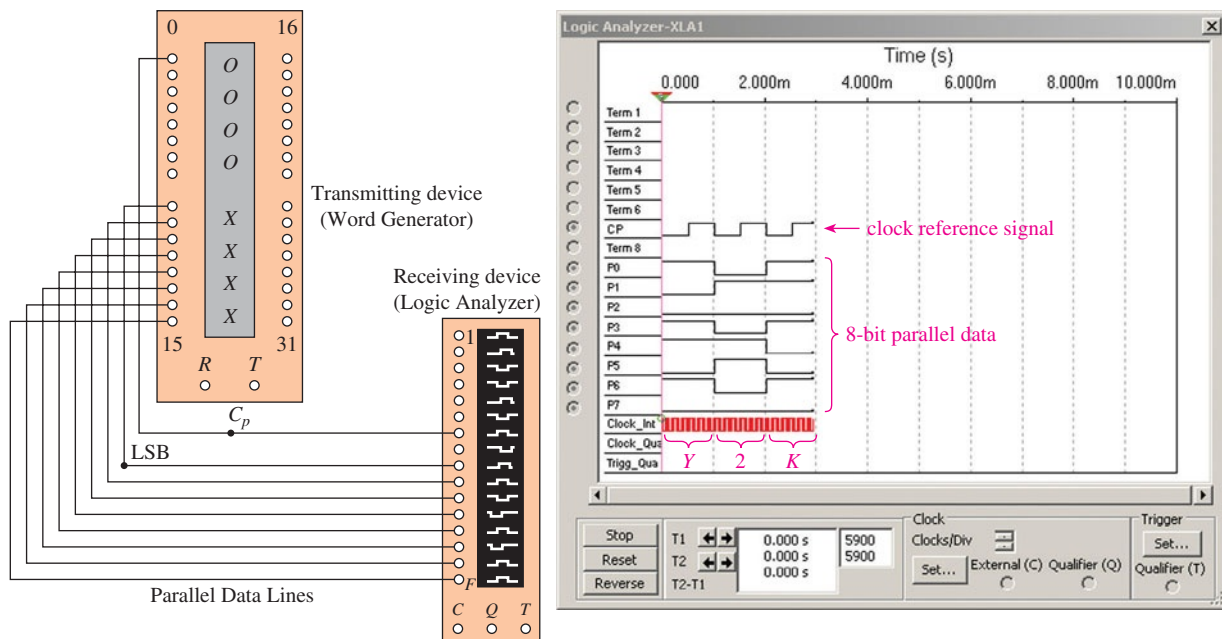

Figure 2–12 A MultiSIM simulation of the parallel transmission of the ASCII characters *Y2K*.
Figure 2–12 shows a MultiSIM simulation of the transmission of the three parallel ASCII characters *Y2K* from a transmitting device (the Word Generator) to a receiving device (the Logic Analyzer). The top trace in the Logic Analyzer displays a clock reference waveform (CP) of 3 clock periods, each period lasting 1 ms. The next eight traces show the parallel output data (PO-P7). Since ASCII is a 7-bit code and since digital systems work in 8-bit groupings, a leading zero is added to the MSB of each ASCII code. During the first period (the first column), the parallel data lines contain the code 0101 1001, which is the ASCII code for the letter *Y*. Look up the next two 8-bit columns in an ASCII chart and you will see that it is transmitting the letters *Y2K*.